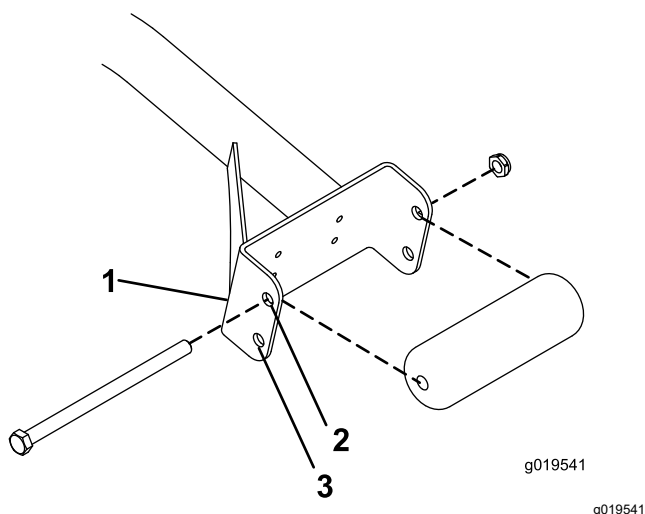

Figure 3
- If you are using 27-inch cutting units, install the rollers in the upper mounting holes of the support-assembly channels (Figure 3).
- If you are using 32-inch cutting units, install the rollers in the lower mounting holes of the support-assembly channels (Figure 3).